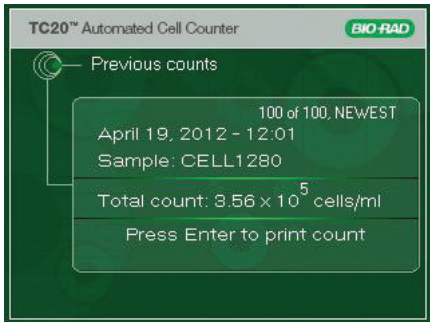

Fig. 18. Previous counts results.
2. To scroll through the results slowly, use the **up** or **down** arrow key (Figure 18).